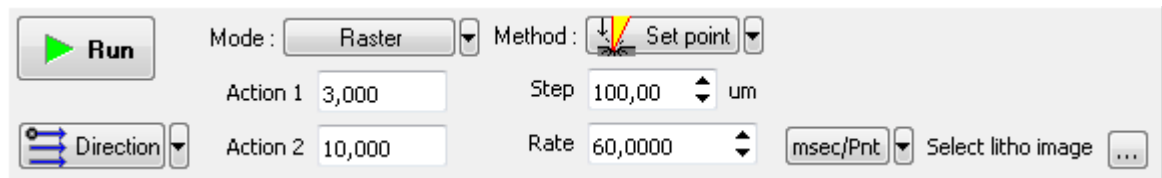

Fig. 12-29. Simple raster lithography Control panel
1. In the **Action 1** and **Action 2** of the Control panel of Litho window, define the range within which the impact of the tip on the sample will vary. Enter the lower and the upper limits of the range in the fields **Action 1** and **Action 2**, respectively (Fig. 12-29).
- In the **SetPoint** field (Fig. 12-29) – the impact level the probe tip presses the sample during motion to the beginning of the sample and between pulses.